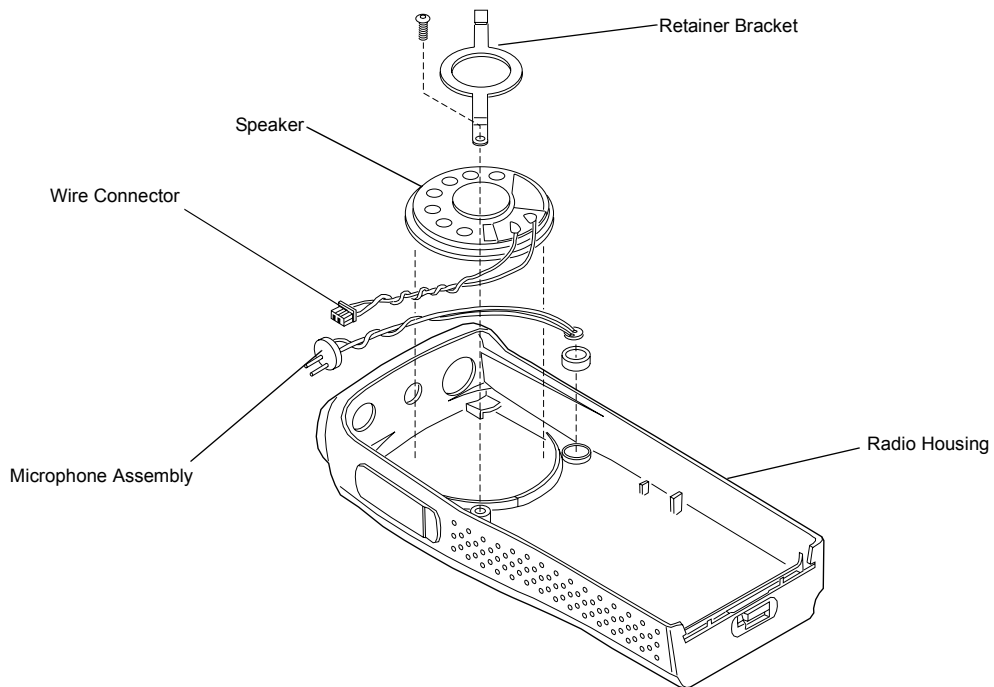

Figure 8-6. Removal Speaker-Microphone Assembly
1. Remove the screw from the speaker retainer using a T6 Torx screwdriver (Figure 8-6).